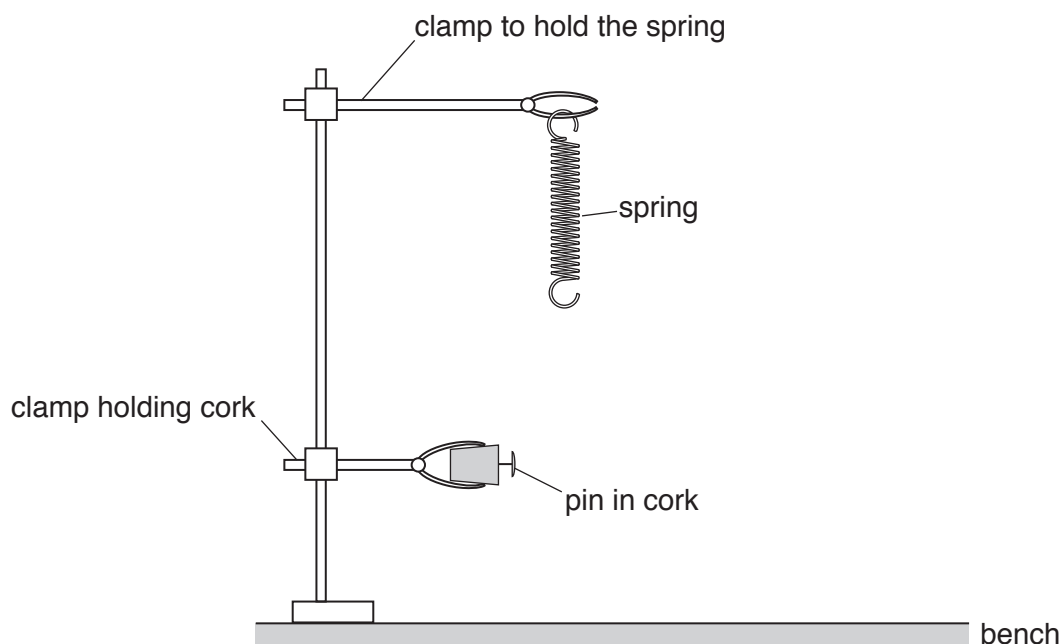

Fig. 1.1
3. The apparatus is to be set up as shown in Fig. 1.1.
Check that the apparatus is set up ready for the next candidate, as shown in Fig. 1.1.